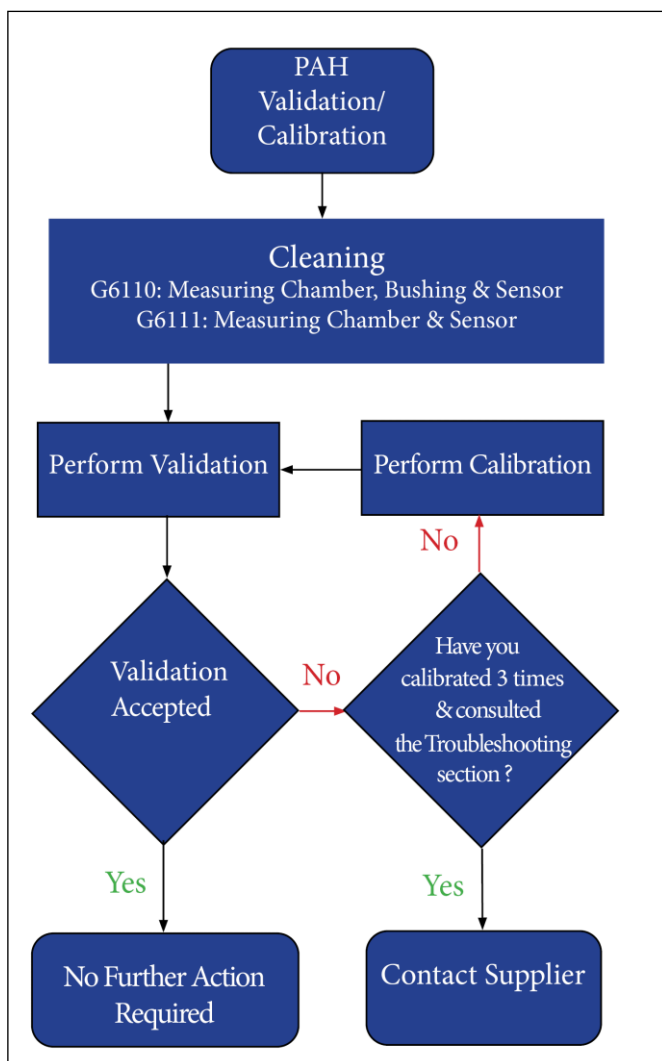

Figure 6-2: PAH Validation/Calibration Procedure
Validation is a part of the normal maintenance of the PAH module and is used to ensure the PAH module is functioning correctly. Calibration is used to correct PAH reading offsets. Figure 6-2 is a flow chart entailing the procedures that must be done to ensure a correct functioning PAH module.
6. Place the cleaned PAH sensor in the calibration chamber in an upright position. Wait for the display of PAH value to approach the value of the used ampoule. If the displayed value is within the tolerance in Table 6-2, the validation is successful, and a calibration is not required. If the validation is not successful, please refer to Figure 6-2.
4. Place the cleaned PAH sensor in the calibration chamber in an upright position. Wait for the display of PAH value to approach the value of the used ampoule. If the displayed value is within the tolerance in Table 6-2, the validation is successful, and a calibration is not required. If the validation is not successful, refer to Figure 6-2.